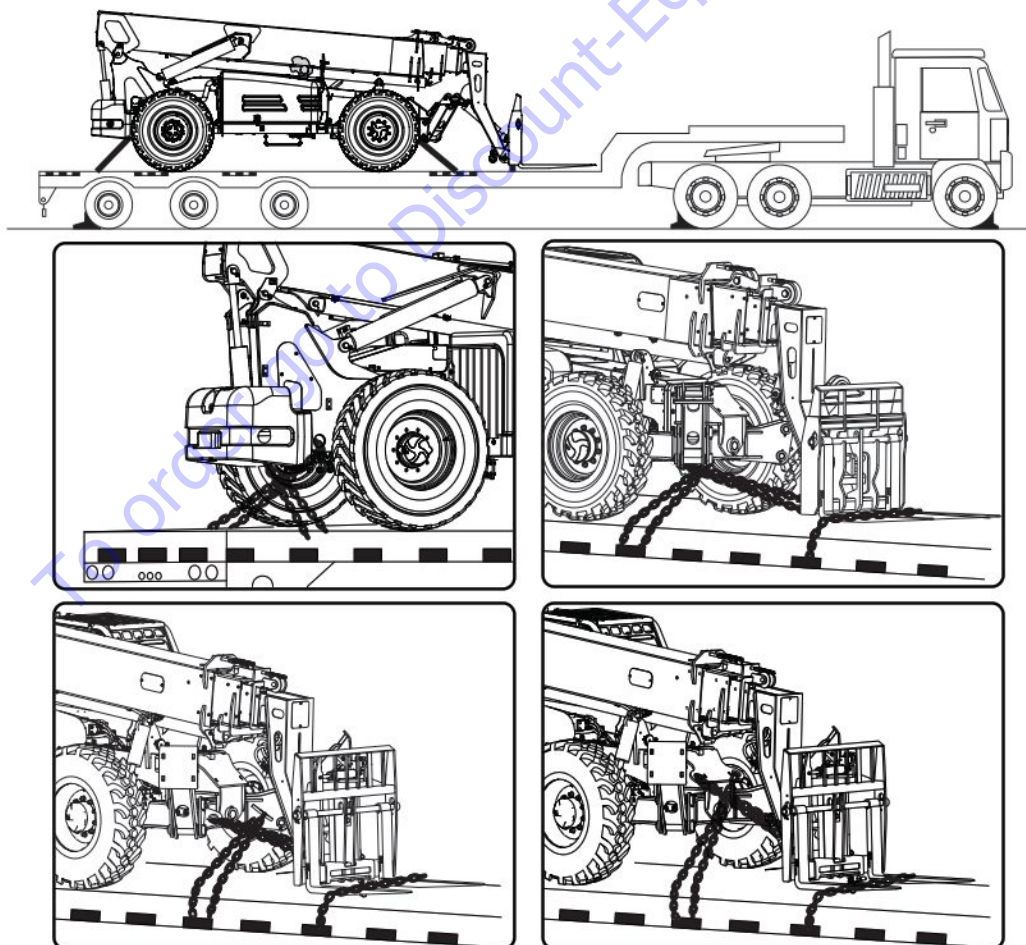
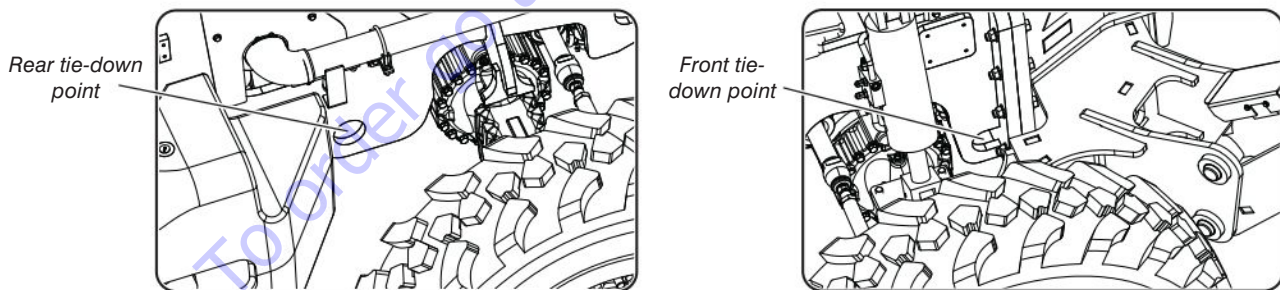

Figure 56 Tie-down points
Figure 57 Front and rear tie-down point locations
11. Anchor down telehandler to transport surface using tie-down points. See Figure 57 and secure the forks to the platform using sufficient straps. See Figure 56.
The **towing pin** ① utilizes the telehandler as a towing vehicle and is located at the rear of the telehandler as shown in Figure 57.